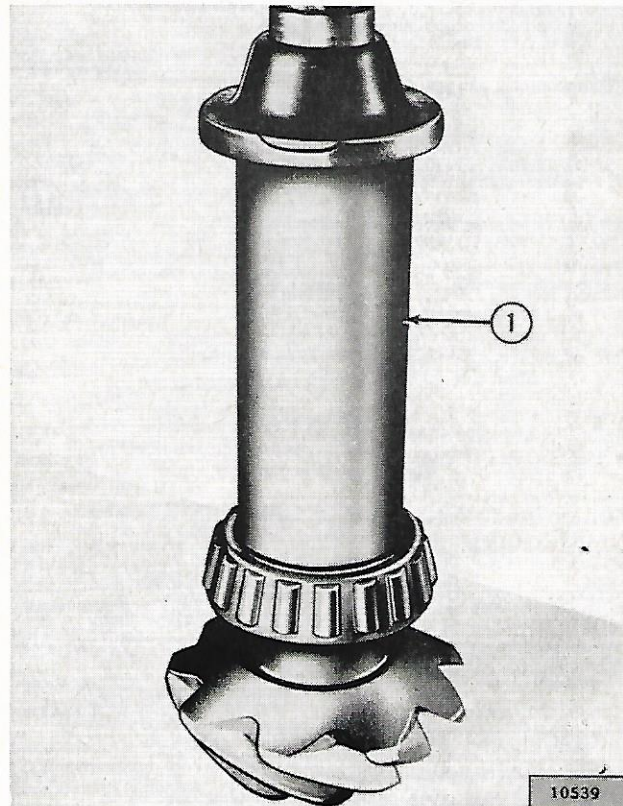

FIG. 11-13—PINION BEARING
- Use Tool C-3095 to press the inner bearing cone and roller onto the pinion shaft, as shown in Fig. 11-13.